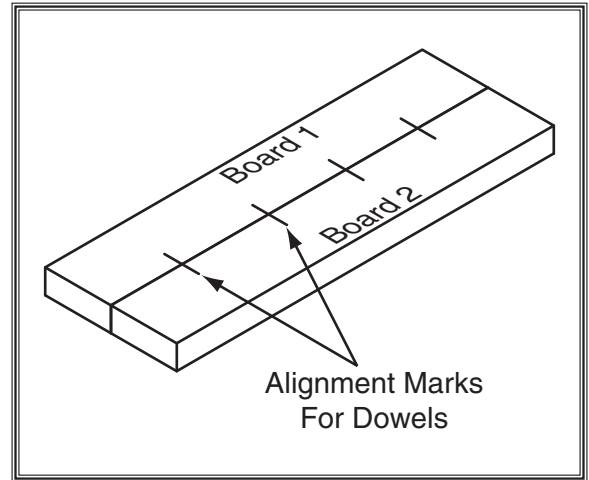

Figure 2. Alignment marks on the boards for the dowel positions.
1. Align the two boards to be joined, then make marks on one side of the boards where the dowel holes will be drilled (see **Figure 2**).